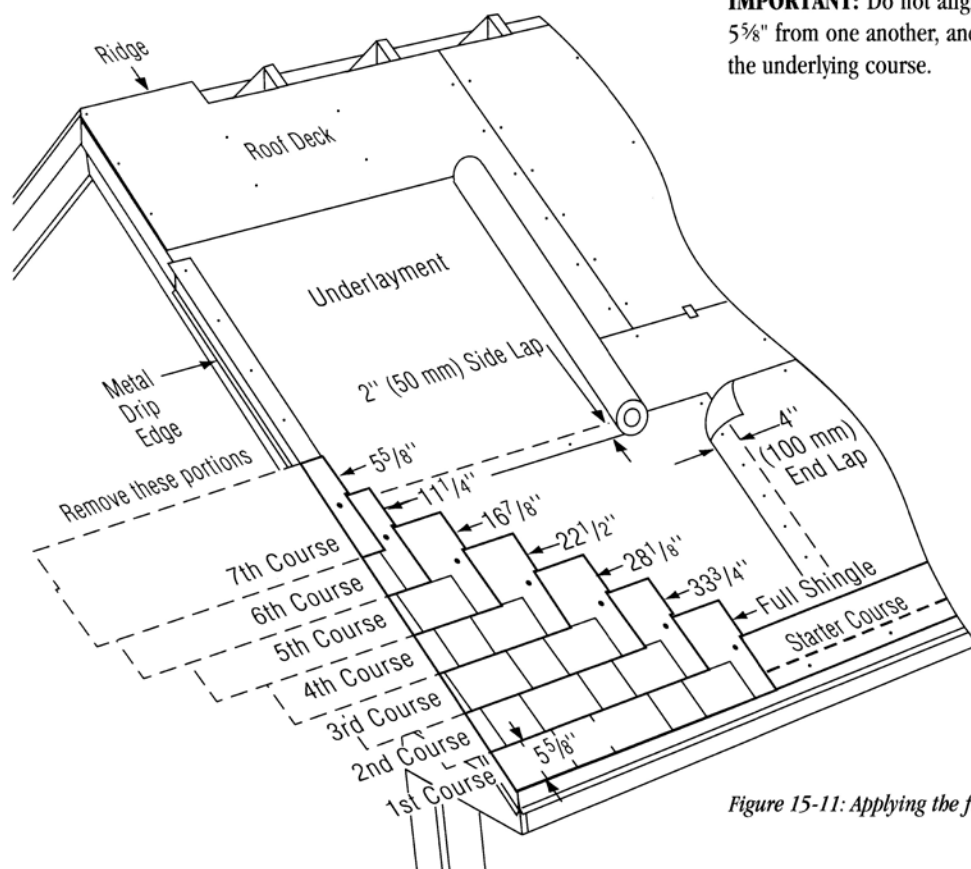

Figure 15-11: Applying the first 7 courses on a standard slope.
1. Cut  $5\frac{5}{8}$ " off the left side of a shingle and install this  $33\frac{3}{4}$ " piece over and above the first-course shingle, in line with the left edge of the starter course (*Figure 15-11*).
2. Cut  $11\frac{1}{4}$ " off the first shingle of the third course,  $16\frac{7}{8}$ " off the first shingle of the fourth course,  $22\frac{1}{2}$ " off the first shingle on the fifth course,  $28\frac{1}{8}$ " off the first shingle of the sixth course, and  $33\frac{3}{4}$ " off the first shingle of the seventh course. Apply each with its left edge in line with the previous course (*Figure 15-11*).